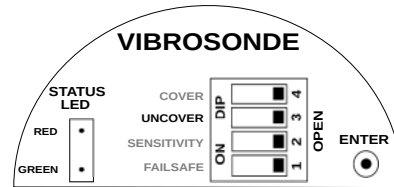

Figure 15: Saving Uncover Delay
4. Uncover Delay is entered, but not saved. To save and test the Uncover Delay, set the UNCOVER switch back to OPEN position as shown in figure 15. The STATUS LED will come back to its original position.